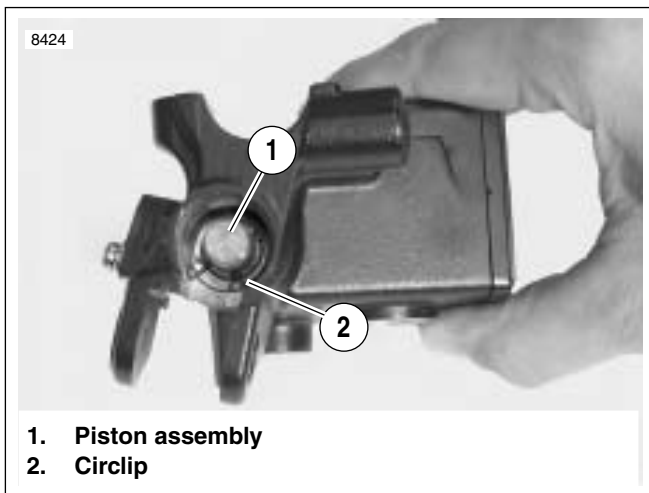

Figure 2-38. Piston Assembly in Master Cylinder
4. See Figure 2-38. Depress piston assembly (1) and remove internal circlip (2) and discard.
5. See Figure 2-38. Secure piston assembly (1) with a **new** circlip (2).